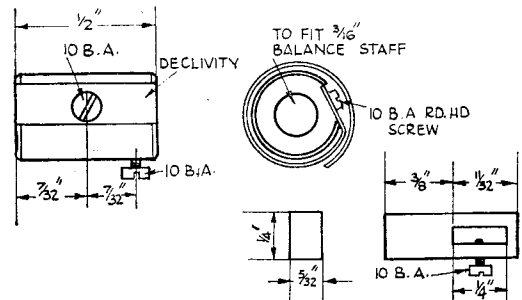

Fig. 20. Control spring collet and stud
Drill and turn up control spring collet from $\frac{1}{4}$ -in. brass rod, reducing the diameter to a fraction under $\frac{13}{32}$ in. Drill and tap two 10-B.A. holes at right angles to each other, and staggered by the distances shown in Fig. 20. File a declivity across the centre screw axis extending tangentially, inwards from the outer circumference to a depth of approximately 0.0165 in. This will give a "flat" of about $\frac{5}{32}$ in. on each side of anchorage screws. Leave the bore slightly under size, so that the final fit on staff can be accurately made by reaming. Polish both sides and edges, and fit two polished and blued 10-B.A. cheese-headed screws, making that for the centre with a well
(1) Bend a short length of the inner turn to a rather abrupt angle as shown in Fig. 20.
(2) Hold the spring *very carefully* by its outer coil and gently *spring* out the centre coil, with finger of left hand, until the anchorage hole is exposed.
(3) Place the collet roughly into position with end of spring abutting the deepest end of declivity.